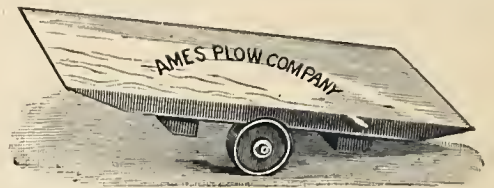

Fig. 509. — Balance-Truck.
*The Balance-Truck*, represented by *Fig. 509*, is suitable for same work as the BLOCK-TRUCK, but has two wheels only.